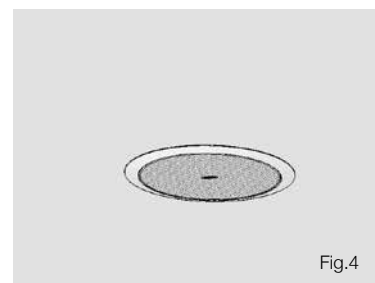

Fig.4
4. Slide the speaker assembly through the hole and turn the screws on the front of the speaker to extend the mounting wings. Tighten the screws until a firm grip is achieved. If using a power driver, Tannoy recommends a torque setting of 1.5 Nm. (Fig.4)
6. Insert grille by pushing it onto the speaker. (Fig.4)
7. Insert grille by pushing it onto the speaker. (Fig.4)